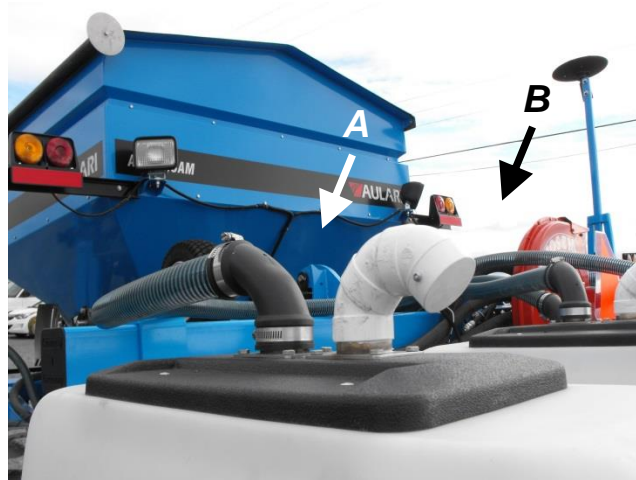

Figure 12L
8. Install the flexible hose to the black rubber elbow installed on the seed hopper [Figure 12L, **A**]. Make sure you have removed the red cap beforehand. The flexible hose at each end have a larger diameter. Use adapters supplied by the manufacturer.
10. Remove the white cap on the elbow air exhaust [Figure 12L, **B**]. This output is used to discharge the air generated by the applicator fan.